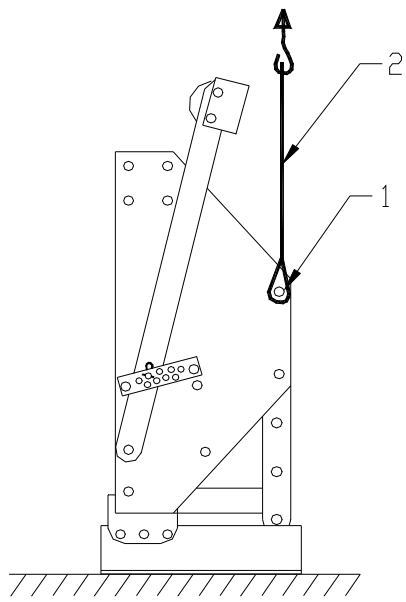

Fig. 1.
The machine is delivered on a pallet. To install the machine behind a tractor, handle as follows (see fig.1, 2, 3, 4, 5 and 6 )
2. Firmly connect a sling 2 of approximately 2.5 mtr (8 ') with D- shackles to the holes 1 at each side of the machines as shown in Fig.1.
@ The position of the blades at the rotor and the position of the rotor in the main frame is critical for the final job done. So check this carefully with the figures 1 to 6 and Chapter 12.